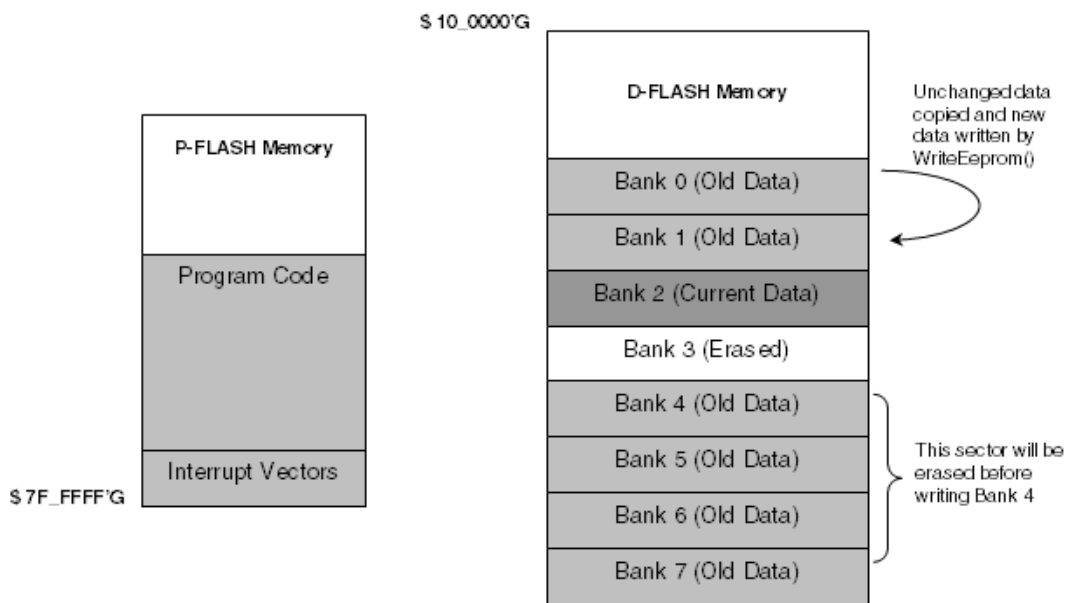

Figure 1. Example MC9S12XS Memory Map with EEPROM Emulation
- Figure 1 illustrates the default memory map of the MC9S12XS with a typical allocation of resources for a non-volatile data storage in the D-flash memory.
Figure 1 illustrates an example with two sectors of the D-flash allocated for EEPROM Emulation, with 8 banks of 64 bytes of non-volatile data storage.